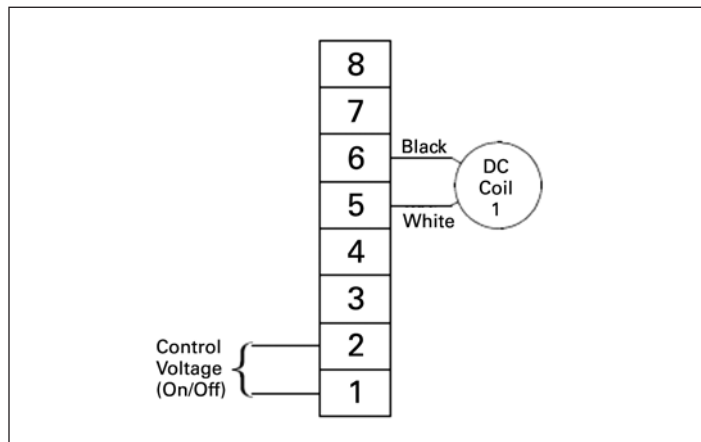

Figure 7. Connections for Magnetically Held Contactor
Refer to **Figure 7** for standard control wiring for magnetically held contactors. To close the contactor, apply power to terminals 1 and 2 on the control board. Power must be maintained to terminals 1 and 2 to keep the contactor in the closed position. The coil is connected to terminals 5 and 6.
5. Remove leads from coil to terminals 5 and 6 on the control board. Refer to **Figure 7**.